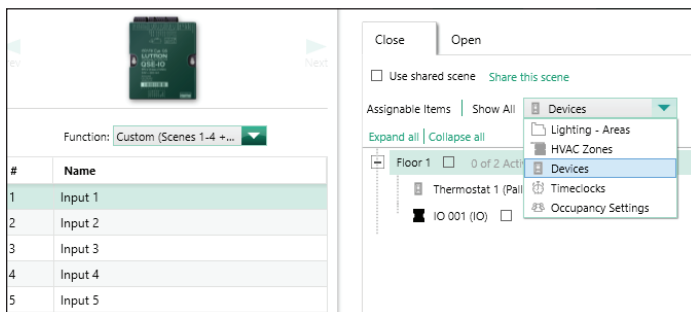

Figure 4
- Select Devices as shown in Figure 4.